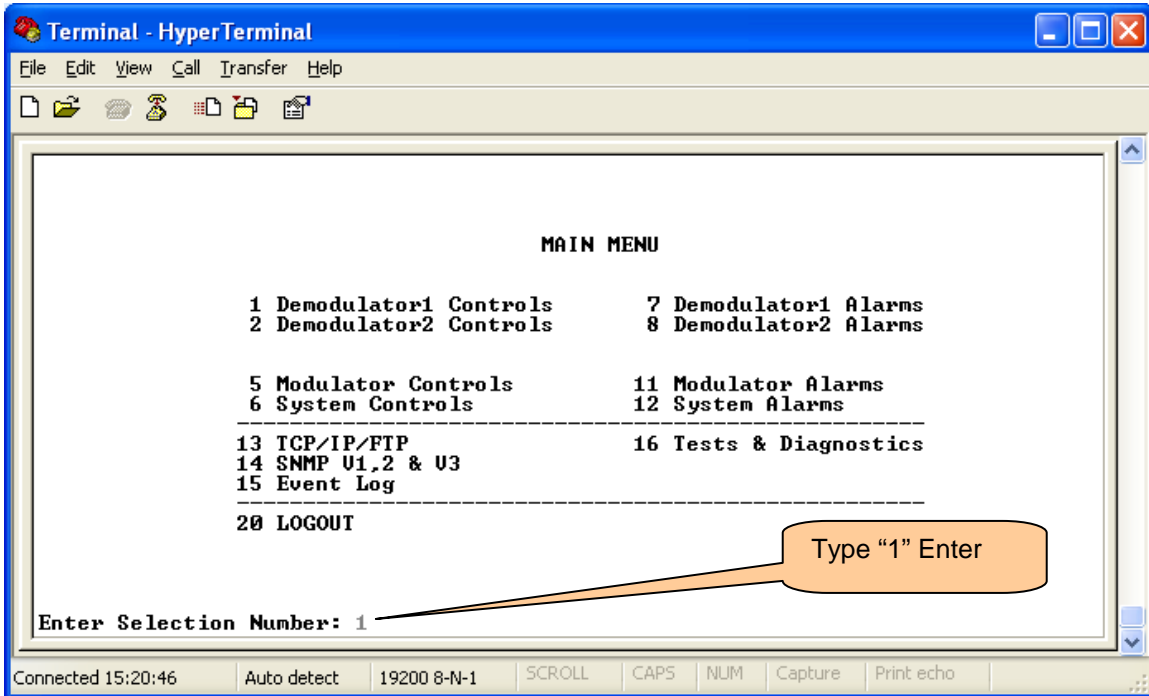
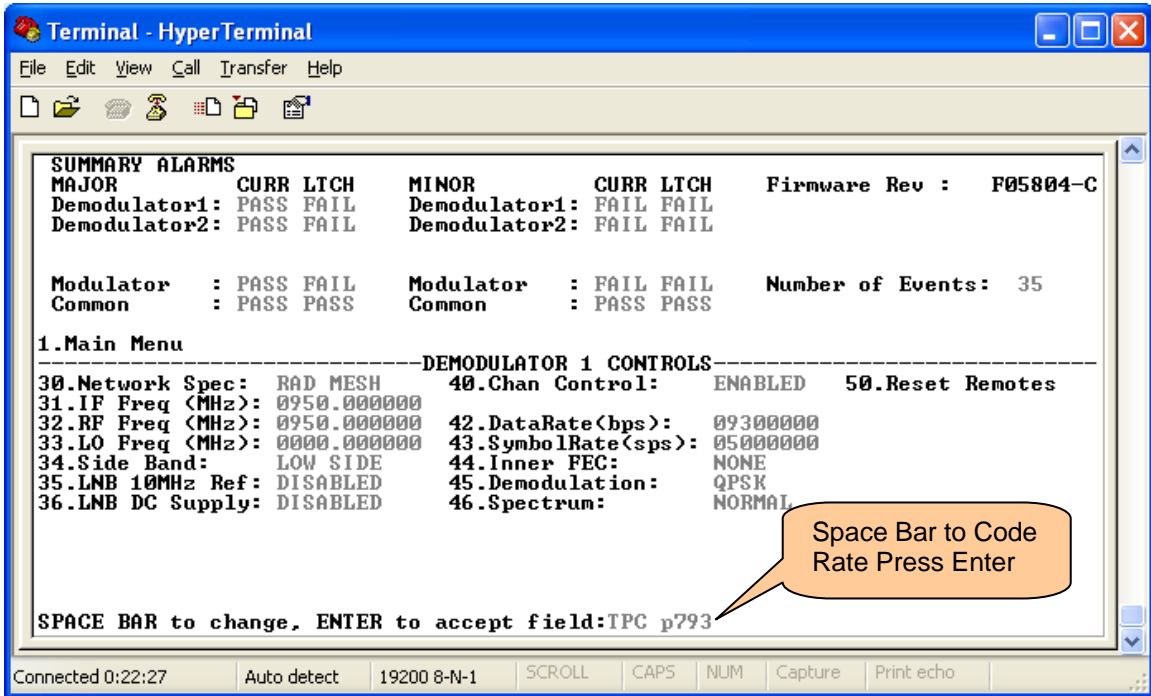

Figure 18 – Enter Demodulator Setup
Figure 22 – Space Bar to correct Code Rate
1. Move the RS232 terminal service cable to the unit to be calibrated and login to the Gateway. Set up **ALL** populated demodulators; see Figure 18 through Figure 22.